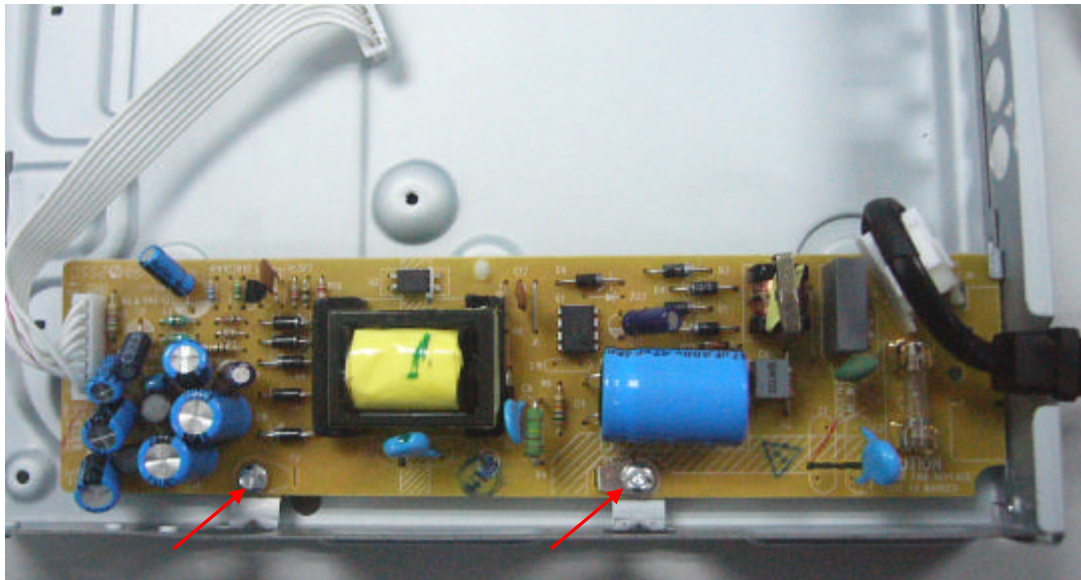

Figure 8
Step6: Remove the 2 screws on power board to dismantle the power board. (Figure 8)